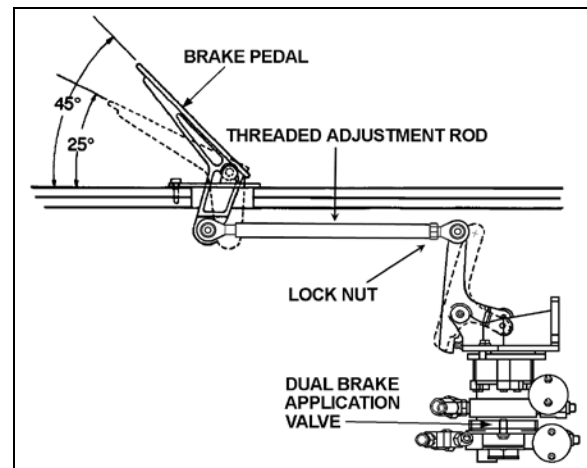

FIGURE 14: BRAKE PEDAL ADJUSTMENT
The E-8P dual brake valve is a floor mounted, foot-operated type brake valve with two separate supply and delivery circuits. This valve is located in the front service compartment (Figure 14).
1. Replace the linkage, loosen threaded rod lock nut and screw or unscrew the threaded adjustment rod in order to obtain a 45° brake pedal inclination (Figure 14).